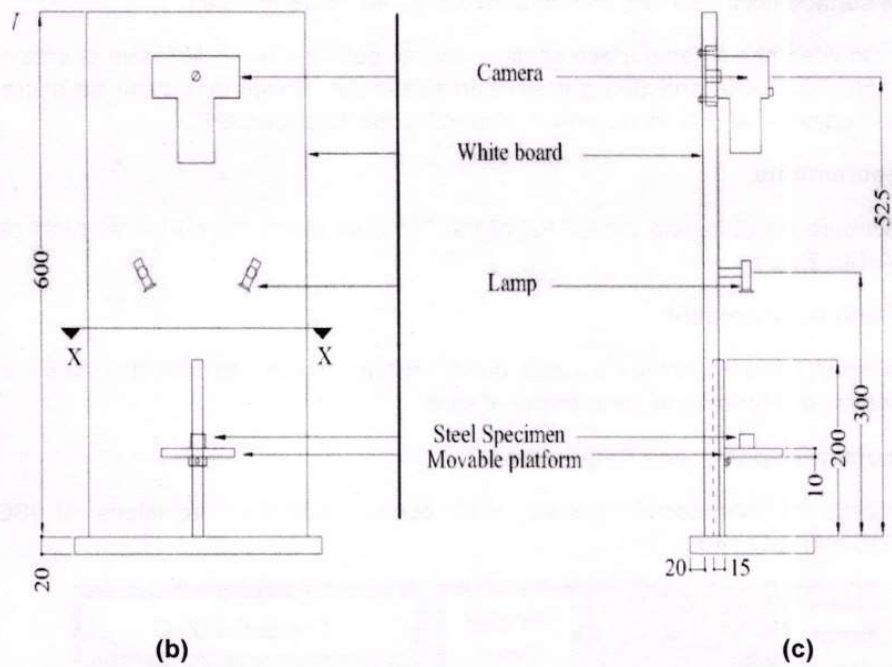

Figure 1: Test setup for CSPD of the TMT bars: (a) Imaging Setup, (b) Schematic Front View (c) Schematic Side View
- (1) The test setup to capture the *Cross-Sectional Phase Distribution (CSPD)* of the TMT bars shall be as shown in **Figure 1**.